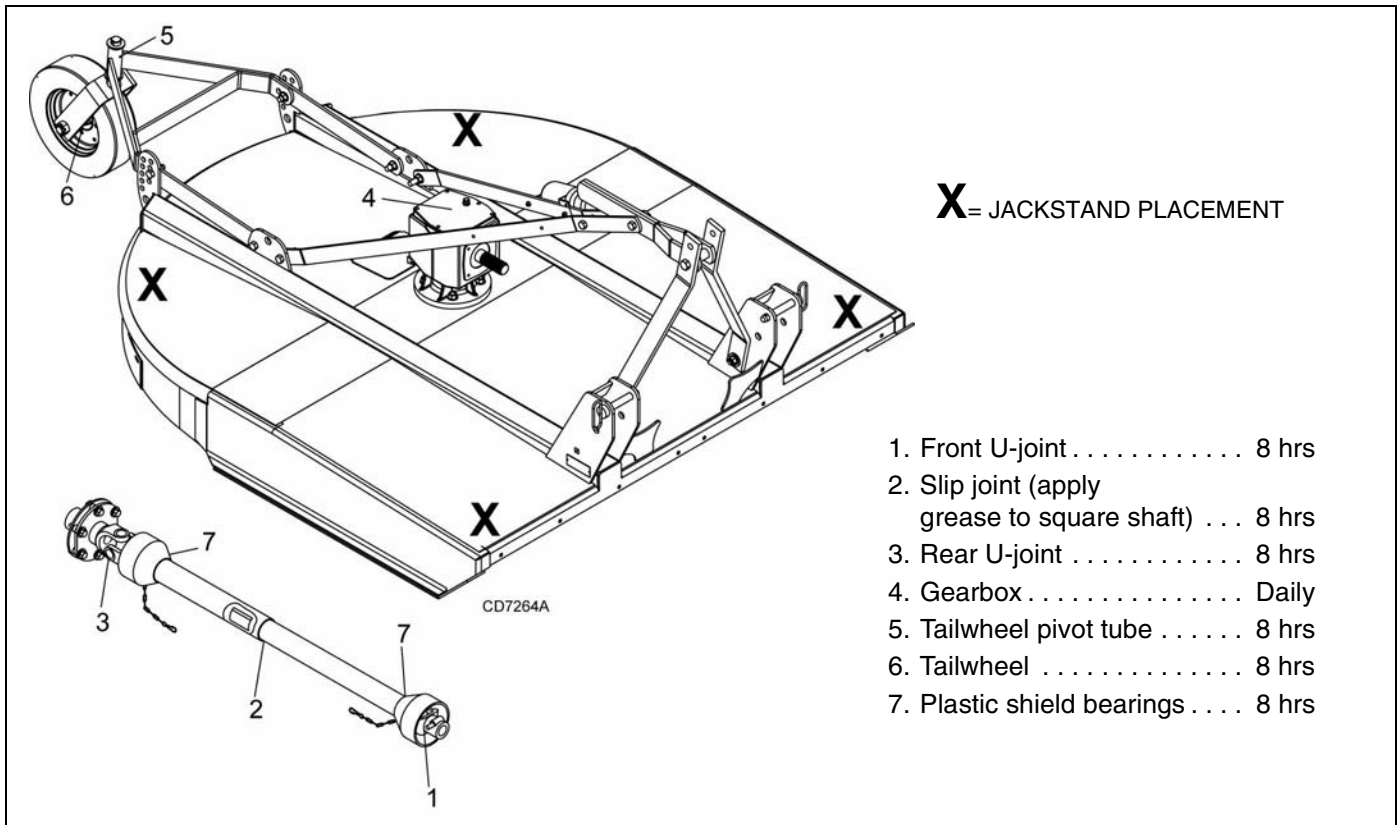

Figure 12. Jackstand Placement and Lubrication Points
1. Jackstands with a load rating of 1000 lbs or more are the only approved blocking device for this cutter. Install a minimum of four jackstands (shown by Xs in Figure 12) under the cutter before working underneath unit.
2. See Figure 12 for lubrication points and frequency of lubrication based on normal operating conditions. Severe or unusual conditions may require more frequent lubrication.
2. Raise cutter and block securely (see Figure 12).
3. Align crossbar (8) with blade access hole in the cutter frame. Remove cap screw, blade pin lock clip, keyhole plate, and shims. Carefully drive pin out of crossbar.
4. Rotate crossbar (8) and repeat for opposite blade.